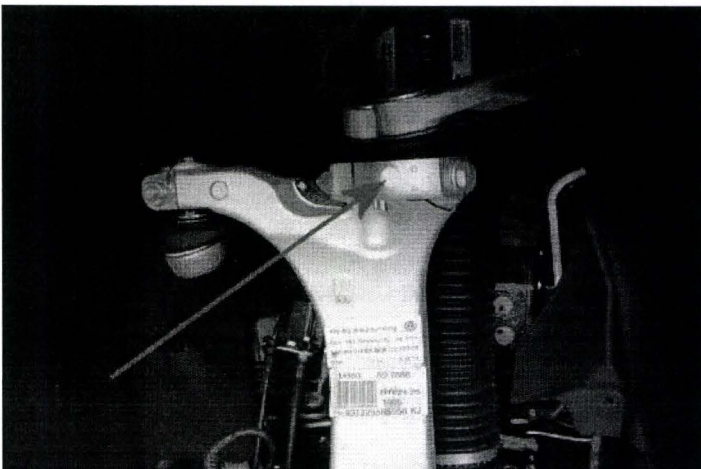

Figure 11
- Place a Yellow paint completion mark on the Right and Left hand wheel bearing housing as shown in Figure 11 to confirm replacement